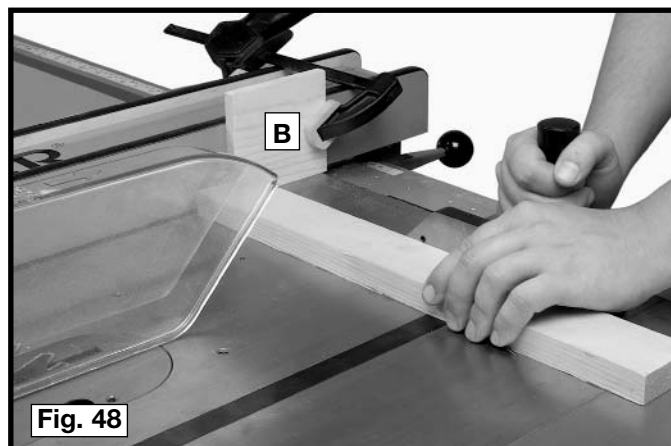

Fig. 48
The miter gauge is equipped with adjustable index stops at 90° and 45° right and left. You can make adjustments to the index stops by tightening or loosening the three adjusting screws (B) Fig. 48 with the supplied Hex wrench
**▲CAUTION** When using the block (B) Fig. 48, as a cut-off gauge, it is very important that the rear end of the block be positioned so the work piece is clear of the block before it enters the blade.
When cross-cutting a number of pieces to the same length, a **BLOCK OF WOOD (B)**, can be clamped to the fence and used as a cut-off gauge as shown in Fig. 48. It is important that this block of wood always be positioned in front of the saw blade as shown. Once the cut-off length is determined, secure the fence and use the miter gauge to feed the work into the cut. This block of wood allows the cut-off piece to move freely along the table surface without binding between the fence and the saw blade, thereby lessening the possibility of kickback and injury to the operator.